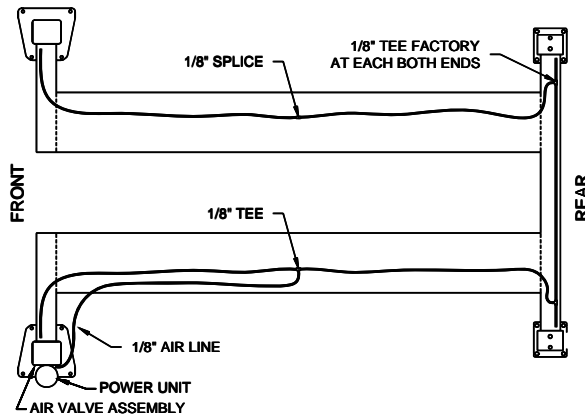

Fig 17 – Lock Release Air Line Routing
- 44) Install 1/8" air line from air valve assembly thru opening in runway to Tee. **Fig 17**